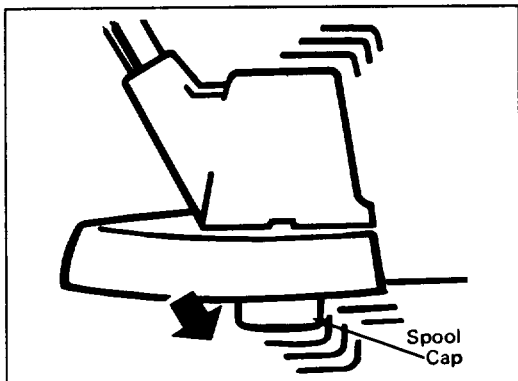

Figure 16
1. To lengthen line, firmly tap spool on the ground while the motor continues to run. The line will be fed from the spool and cut off to the proper length by the cutting knife attached to the shield (Fig. 16).